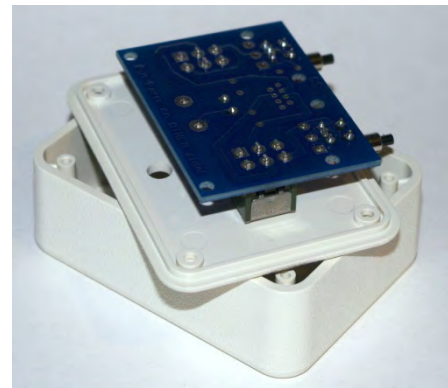

Figure 3.3-4: Toggle Switches Held Straight by the Control Box Lid during the Soldering Process
10. Find the two **toggle switches** and the **control box lid**. Place the switches in the "SW1" and "SW2" locations on the PCB, as shown in Figure 3.3-4. It is also important to keep these switches **flat** against the board while they are soldered into place, so that they will be straight when the control box is finished. A good way to do this is to use the control box lid to hold the switches while soldering. Put the toggle handles through the two center holes in the control box lid (they may be tight). Then, while holding the PCB against the back of the switches, turn the assembly over and place it across the open top of the control box, as shown in Figure 3.3-4. Hold the PCB down flat while soldering the first of the 12 switch connections, to make sure that it will be tight against the switches.